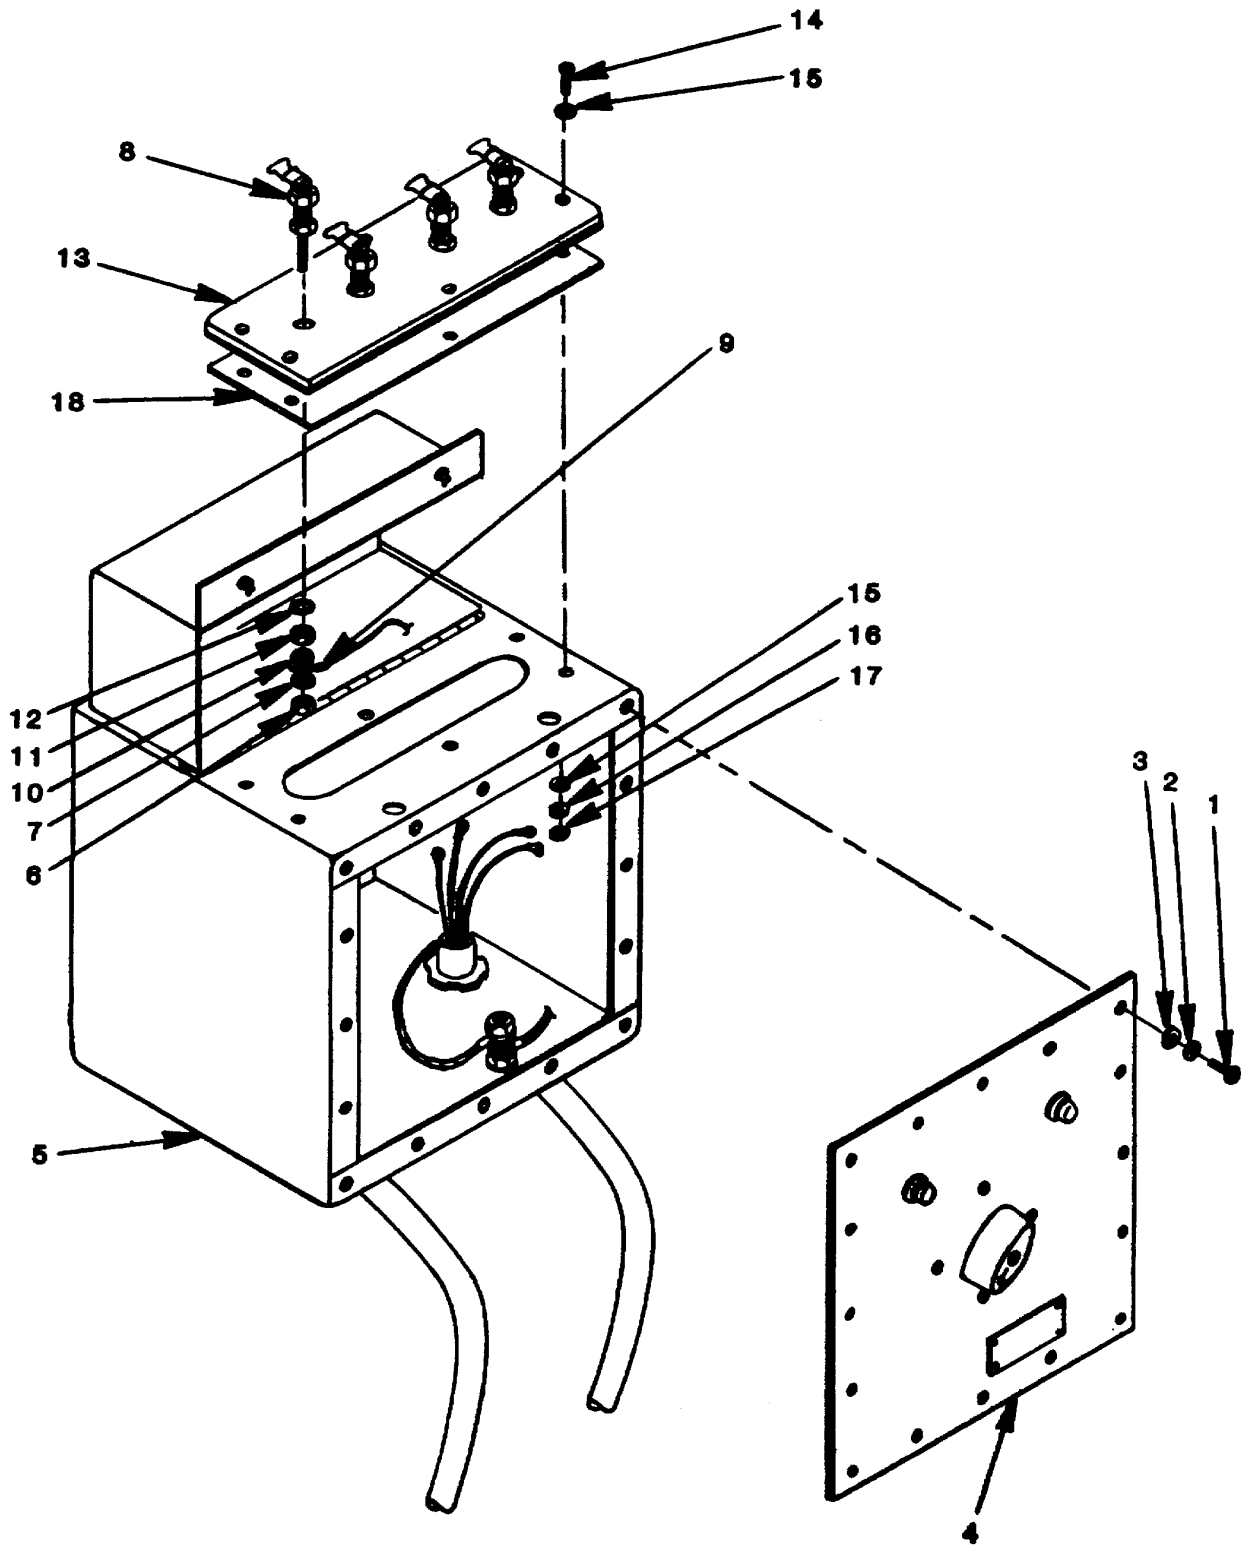

Figure 4-7. Load Terminal/Terminal Board Replacement.
- (1) Remove 16 screws (1, figure 4-7), lockwashers (2), and flat washers (3) securing cover (4) to switch box (5) and take cover off switch box.
- (2) Working inside switch box (5), remove nut (6) and lockwasher (7) from terminal (8). Detach wire(s) (9) by sliding terminal lug(s) off stud.